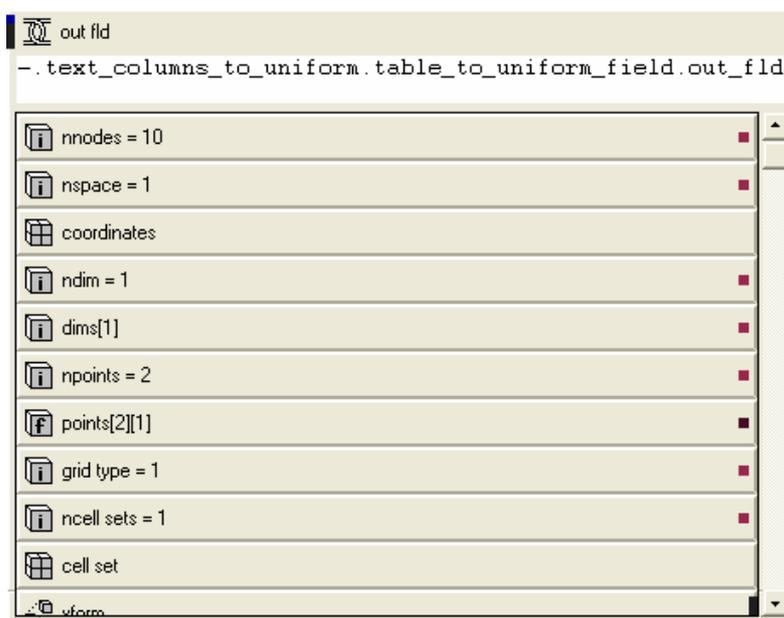

Figure C.39: Corrected out\_fld Link
- Press the **Return** key on the keyboard in order to load up the correct icons as shown in Figure C.39.